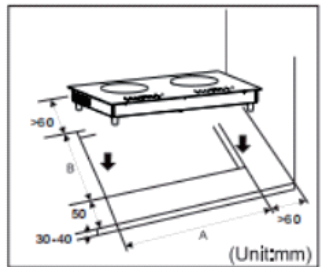

fig.4.2
- There must be a distance of at least 650mm between the hob and any wall cupboard or extractor hood positioned immediately above (see fig.4.2)